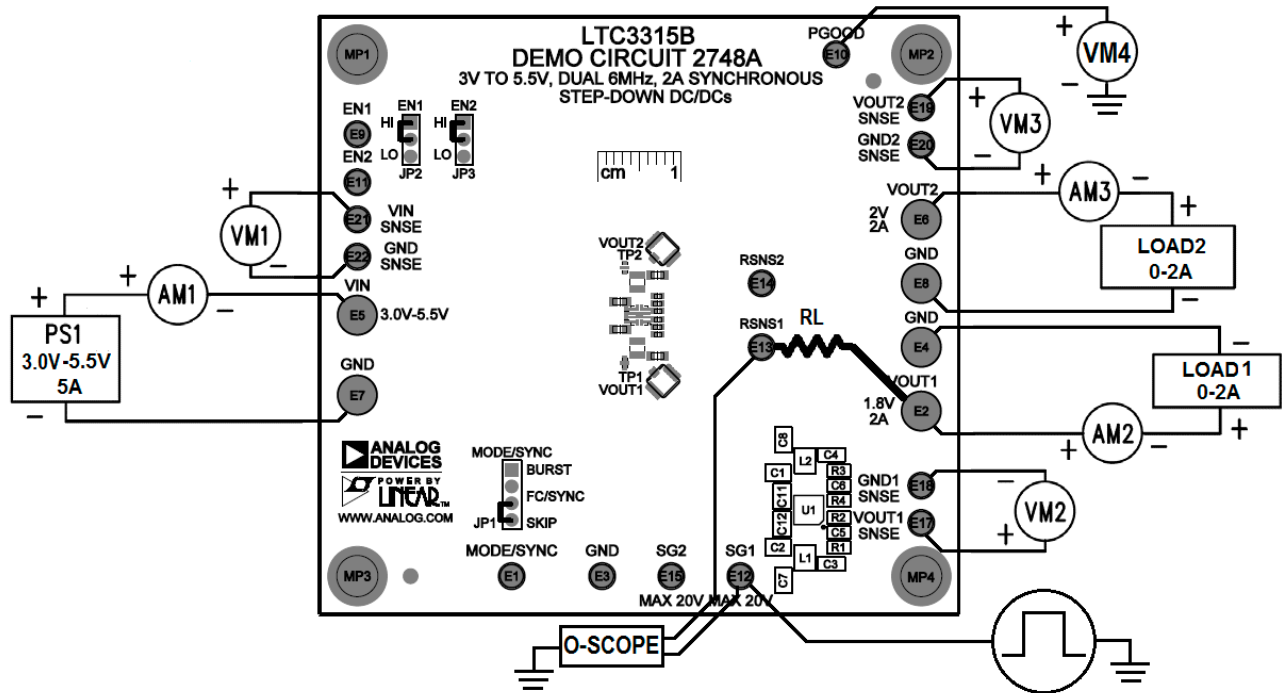
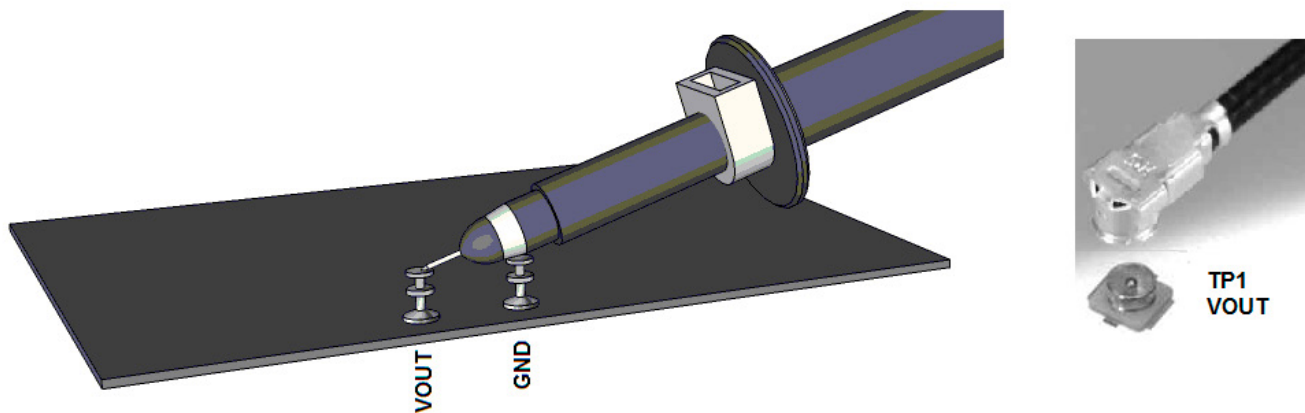

Figure 1. Proper Measurement Equipment Setup
Figure 2. Measuring Input or Output Ripple
The DC2748A is easy to set up to evaluate the performance of the LTC3315B. Refer to Figure 1 and Figure 2 for proper measurement equipment setup and follow the evaluation procedure below.
NOTE: For accurate  $V_{IN}$ ,  $V_{OUT}$  and efficiency measurements, measure  $V_{IN}$  at the  $V_{IN}$  SNSE and GND SNSE turrets and  $V_{OUT}$  at the  $V_{OUT}$  SNSE and GND SNSE turrets as illustrated as VM1, VM2 and VM3 in Figure 1. When measuring the input or output voltage ripple, care must be taken to avoid a long ground lead on the oscilloscope probe.
3. With power off, connect 0V to 6V, 5A power supply, PS1, between  $V_{IN}$  and GND with a series ammeter and a voltmeter as shown in Figure 1.
5. With power off, connect a 0A to 2A load to  $V_{OUT1}$  and GND with a series ammeter and a voltmeter as shown in Figure 1.
6. Turn on LOAD1 and slowly increase from 0A to 2A and observe the output voltage. The output ripple may also be observed using an oscilloscope with the probe connected as shown in Figure 2.
NOTE: Measure the output voltage ripple by touching the probe tip directly across the output turrets or to TP1 as shown in Figure 2. TP1 is designed for a 50 $\Omega$  coax cable to reduce any high frequency noise that might couple into the oscilloscope probes.
8. With power off, connect a second 0A to 2A load to  $V_{OUT2}$  and GND with a series ammeter and a voltmeter as shown in Figure 1.
9. Turn on LOAD2 and slowly increase the from 0A to 2A and observe the output voltage. The output ripple may also be observed using an oscilloscope with the probe connected as shown in Figure 2.
15. To test the transient response with a base load, turn off LOADx (LOAD1 or LOAD2) and add the desired resistor to produce a minimum load between  $V_{OUTx}$  and RSNSx turrets (RL shown on Figure 1). Note that the total load resistance will be RL plus RSNSx (100m $\Omega$ ).